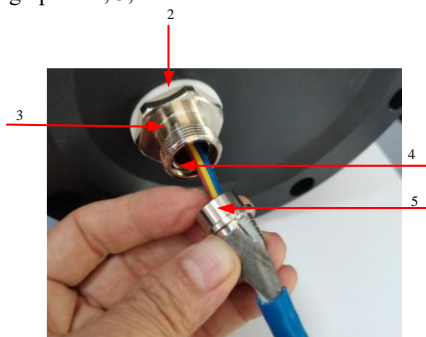

Figure 10
- (3) Install parts 2 and 3 into the threaded hole on the left side of the rear flange. Place part 2 between part 3 and the rear flange, tighten part 3 with a wrench, place part 4 into part 3, and thread the cable cables that have threaded parts 5, 6, 7, and 8 through parts 4, 3, and 2. As shown in the following Figure 10: